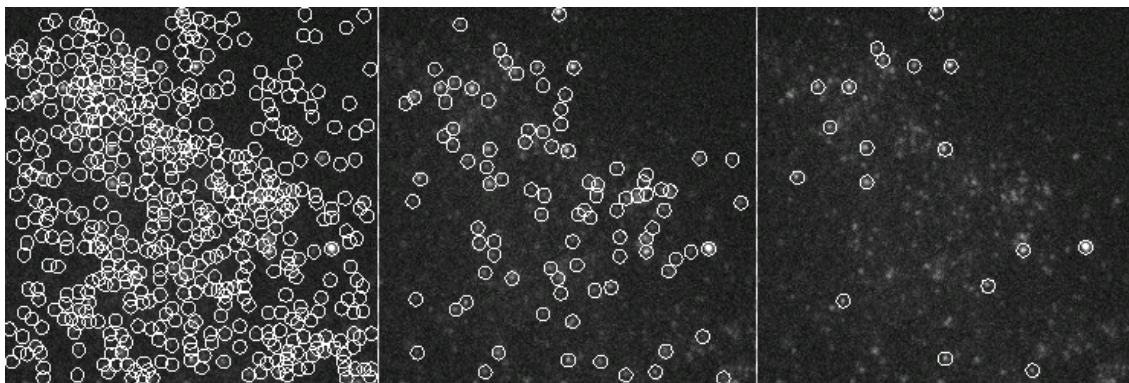

**Fig. 317** Analyzed data set of Fig. 316 using **discard overlapping molecules (A)**, **ignore overlap (B)** and **account for overlap (C)**.
- If **discard overlapping molecules** is selected, all overlapping peaks, indicated by red circles will be discarded. This will result in the highest accuracy, which is defined as the deviation of the fitted to the real peak position and localization precision (the standard deviation from the fit) (Fig. 317, **A**). This method is therefore the method of choice for single emitters and little overlap.
- If **ignore overlap** is selected, all single and overlapping peaks will be taken into account. However, fit accuracy will be decreased when multi-emitter events are fitted as the distribution of one emitter will influence the distribution of an overlapping one without this fact taken into account. Hence accuracy might suffer for multi-emitter events whereas localization precision will be sustained (Fig. 317, **B**). This method is most suitable for slightly overlapping molecules.
- If **account for overlap** is selected all single and multi-emitter events will be taken into account. For multi-emitters the overlap of neighboring molecules is taken into account so losses in accuracy are minimized. There will be a slight decrease in the localization precision (Fig. 317, **C**). This method should be used, when molecules heavily overlap.